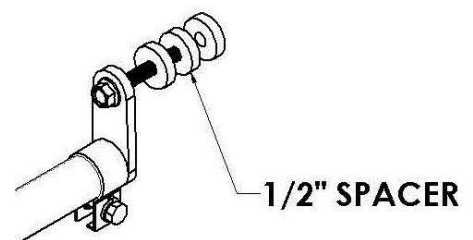

Figure 5
- C. Spacers are supplied to bring the steel swivel away from the frame in the event of any obstructions (Figure 5).